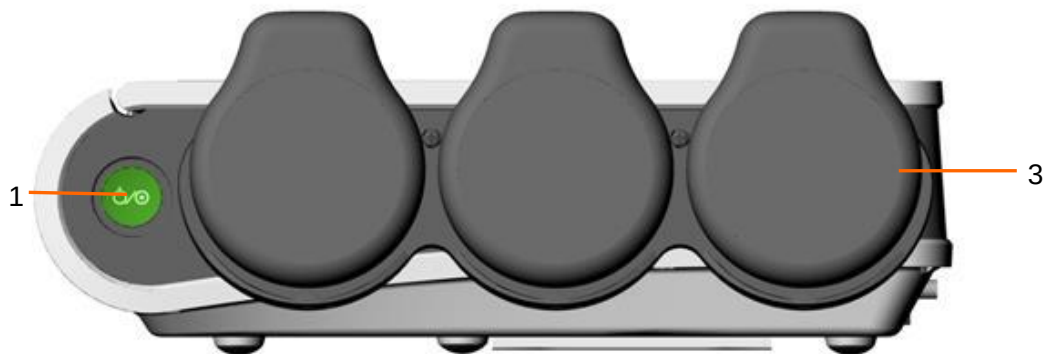

Figure 3-3 Right Panel
1. Please dock the wireless transducers per figure 3-3(F15 Air) or charging can't be completed.